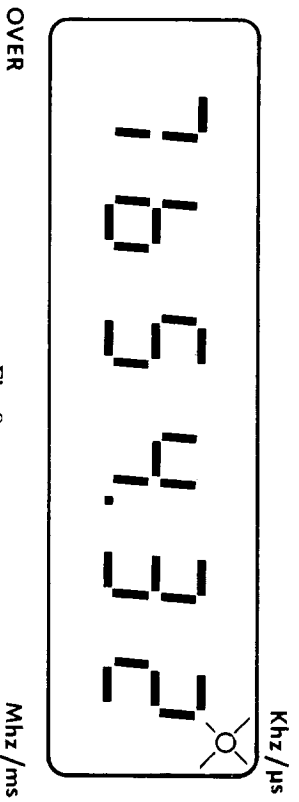
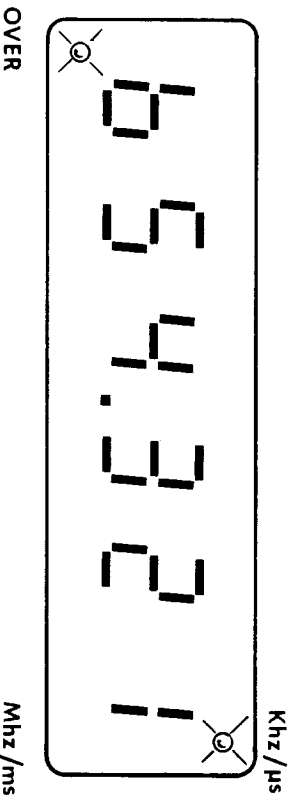

Fig. 8.
Fig. 9.
Fig. 8 illustrates a display of 7654.32 KHz with the AUTO/1 SEC switch in the AUTO (out) position. As indicated by the position of the decimal point, the least significant digit displayed is the tens digit. As a result, the reading may be in error by as much as 10 Hz (.01  $\mu$ SEC in the PERIOD function) because of the uncertainty of the last digit.
If the AUTO/1 SEC switch is set to the 1 SEC (in) position while the same input frequency is applied, the display could appear as shown in Fig. 9. In this display, the least significant digit shown is the units (ones) digit as indicated by the decimal point position. Consequently, the accuracy of this measurement is improved because the uncertainty of the last digit is 1 Hz instead of 10 Hz. However, note the most significant digit (7) in Fig. 8 is not displayed in Fig. 9. This is indicated by the OVER indicator flashing on and off.